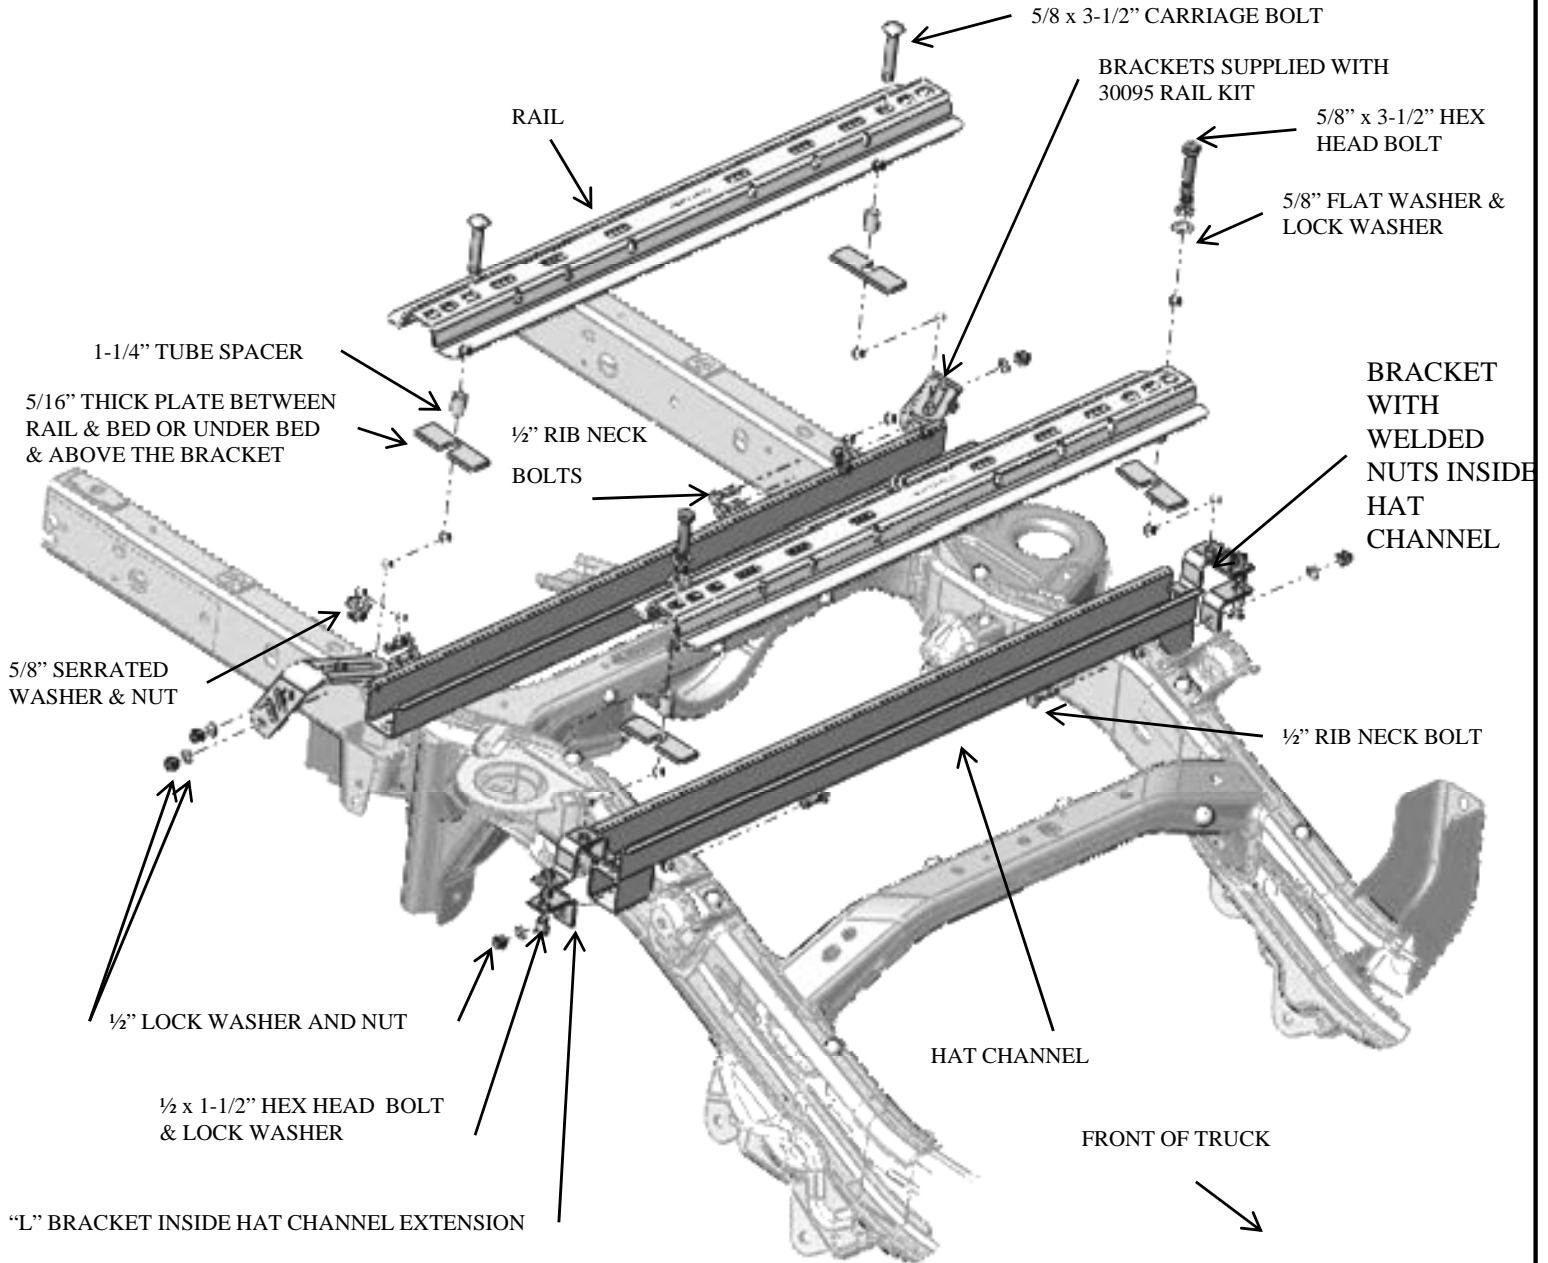

FIG. 1
9. Insert the formed bracket with the welded nuts into the front hat channel. To do this, it may be necessary to slightly bend the sheet metal that is over hanging the hat channel. See figure 1.
10. Install 5/8 x 3-1/2" hex head bolts with flat washers and lock washers through the rails and into the welded nut in the formed bracket. See figure 1.
11. Place the "L" bracket under the formed bracket and the hat channel. Install a 1/2" x 1-1/2" hex head bolt with lock washer into the welded nut as shown in figure 1.
12. Using the hole in the "L" bracket as a guide, drill a 17/32" hole into the frame. Using the 1/2" pull wire, pull a 1/2" rib neck bolt in through one of the access holes in the frame and into the hole in the "L" bracket. Install a 1/2" lock washer and nut on the bolt. See figure 1.
14. Use a center punch to mark the holes in the rear rail per the illustration on page 3. Move the rail out of the way and drill each position with a 1/8" drill bit. Using the brackets from the 30095 rail kit, position them under the bed as shown in figure 1. Be sure the slot in the bracket aligns with the 1/8" hole. Drill the 1/8" hole out to 5/8".
15. Install 5/8" x 3-1/2" carriage bolts through the rails and into the brackets as shown in figure 1. install 5/8" serrated washers and nuts. Snug up the nuts.